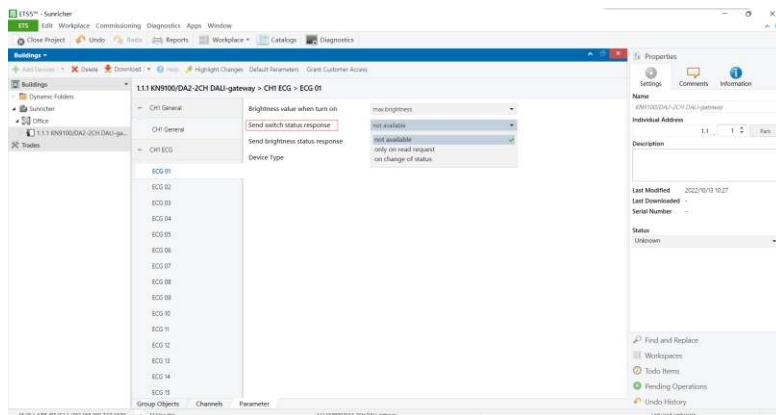

Figure 32
**Send switch status response:** means when to report the switch status of the ECG, drop down and tick a value, available settings are “not available”, “only on read request”, and “on change of status” as shown in Figure 32.